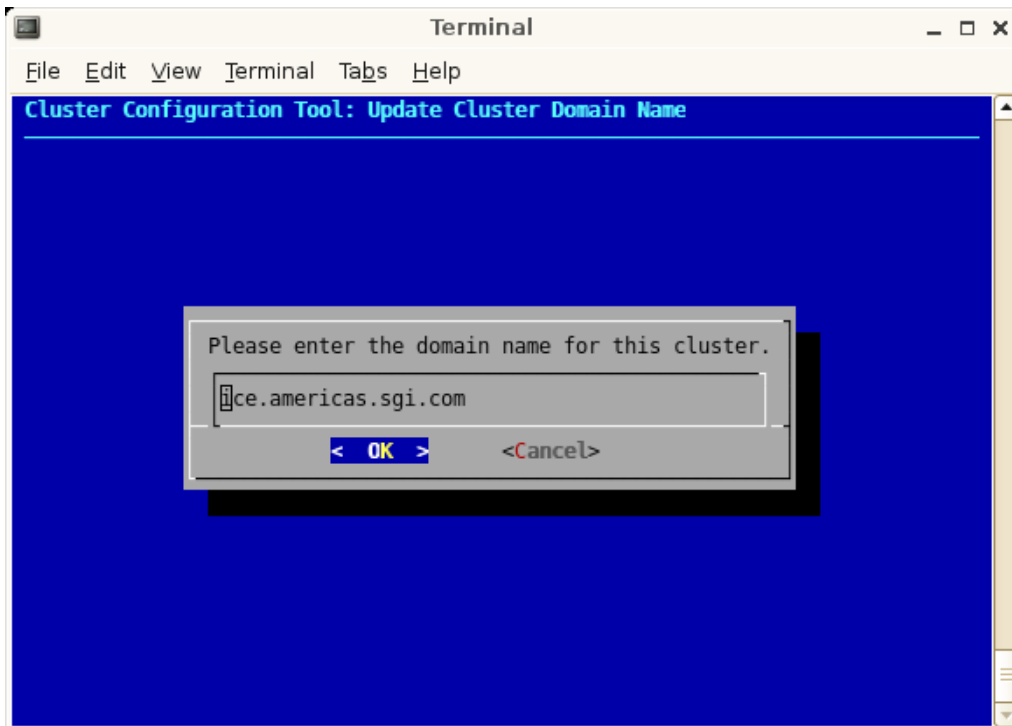

Figure 2-18 Update Cluster Domain Name Screen
30. Enter the domain name for your Altix ICE system, as shown in Figure 2-18 on page 46. Click **OK** to continue (this will be a subdomain to your house network, by default).
35. When the **Admin Infrastructure One Time Setup** screen appears, as shown in Figure 2-18 on page 46, a series of scripts now will run to configure the system admin controller of the Altix ICE system. Click **OK** to continue.